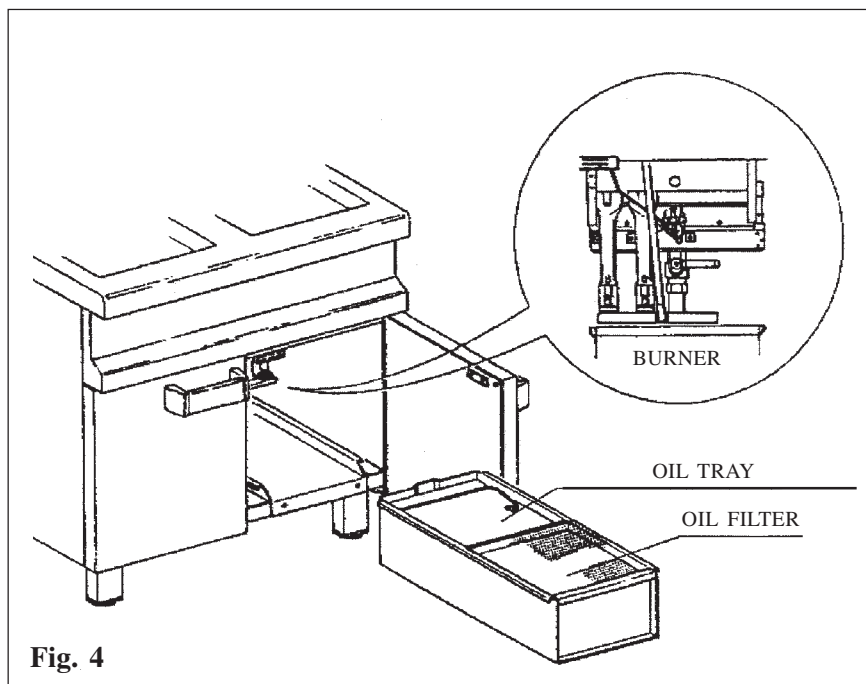

Fig. 4
5.5 DRAINING THE OIL TANK (FIG. 4)